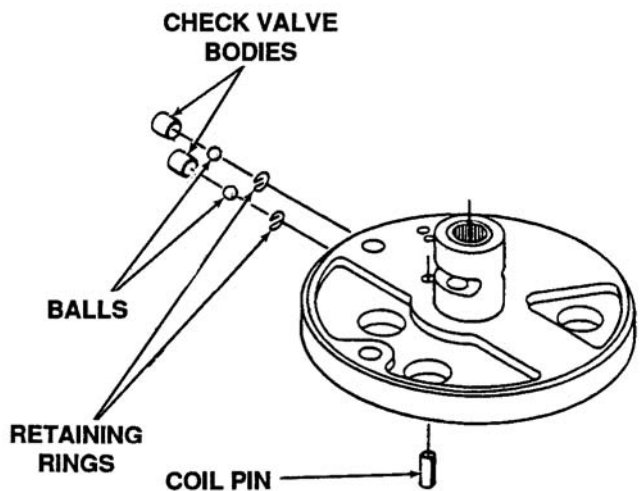

Figure 6-92. Removing Coil Pin
- g. To remove check valves, press or drive out the coil pin. See Figure 6-92.
- i. Remove check balls and retaining rings. See Figure 6-92.